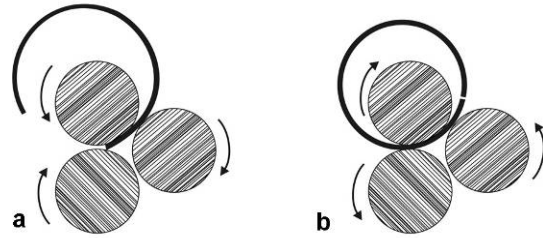

Figure 16
- Feed workpiece into machine. As it nears the end (a, Figure 16), stop and reverse direction (b, Figure 16).